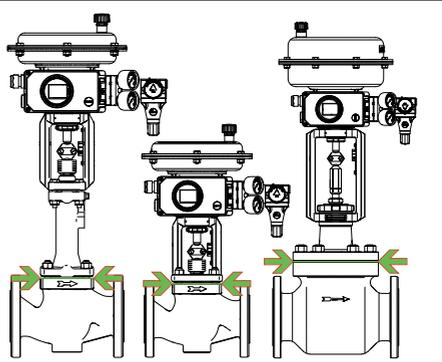

Fig. 5-2: Limit of insulation for control valves
- Only insulate control valves up to the bonnet flange of the valve body (see Fig. 5-2). This also applies to versions with bellows seal or insulating section at medium temperatures below 0 °C (32 °F)